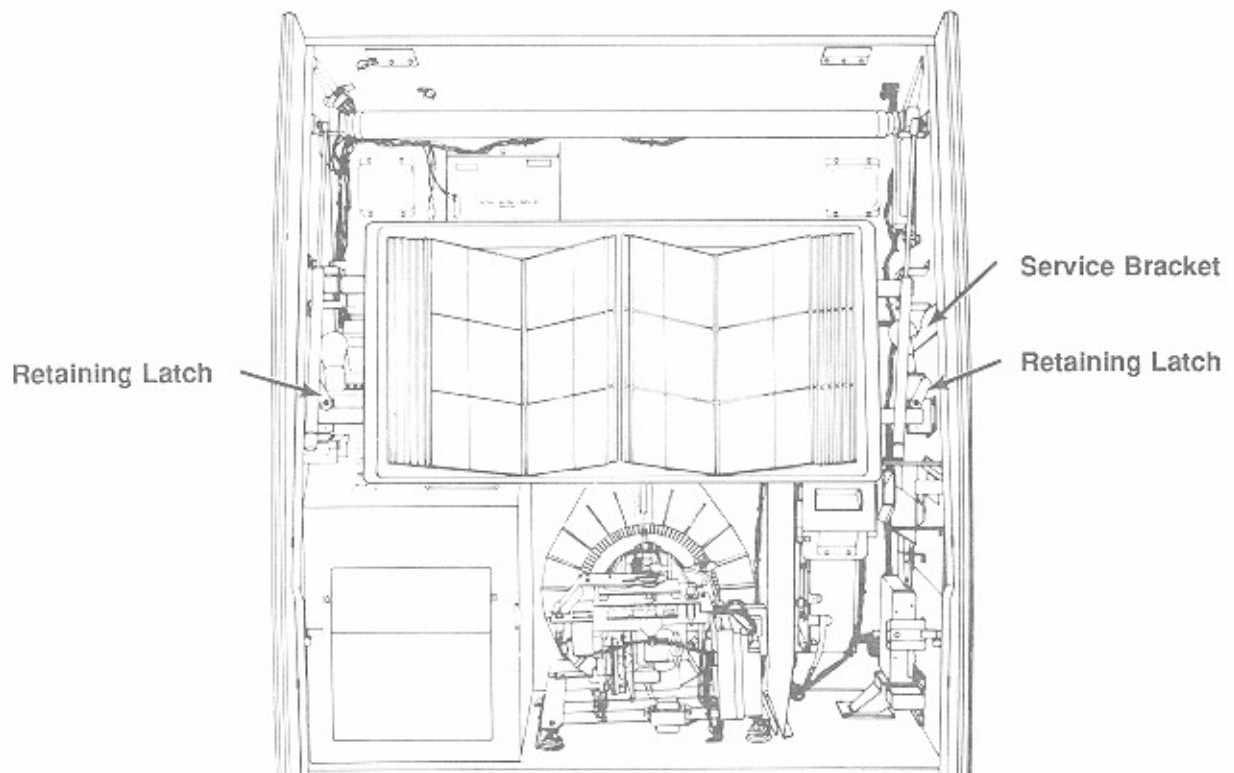

Figure 3-1. Lifting The Title Rack
2. Rotate the two retaining latches (see figure 3-1) away from the title rack bar and lift the bottom of the title rack up and toward you with your left hand.